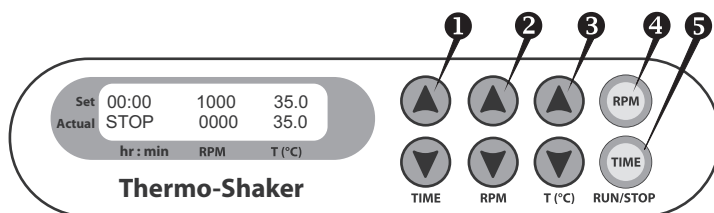

Fig. 1 Control panel
- 4.3 Using the ▲ and ▼ keys (Fig. 1/1) set the required working time interval in hours and minutes (increment - 1 min). Pressing the key for more than 3 s will increase the increment.
- 4.4 Using the ▲ and ▼ keys (Fig. 1/2) set the required speed (increment 10 RPM). Pressing the key for more than 3 s will increase the increment.
- 4.5 Using the ▲ and ▼ keys (Fig. 1/3) set the necessary temperature (increment 0.1°C). Pressing the key for more than 3 s will increase the increment.
4.7 Press the **RPM-RUN/STOP** key (Fig. 1/4). The platform will start rotating and the timer indicator will start counting up the time interval (with 1 min precision).
4.10 The timer can be reset during operation if required. Press the **TIME-RUN/STOP** key once (Fig. 1/5) to stop the timer. Press the **TIME-RUN/STOP** key again to restart the timer.
**Caution!** At the end of the set time period the platform movement is stopped automatically, but the heating can be stopped only by reducing the temperature using the **▼ T(°C)** key (Fig. 1/3 lower key) till the **OFF** sign appears in the upper part of the display.
Following error codes are show in the lower right corner of the display (fig. 1), accompanied by a sound signal every 8 s. Press **RPM RUN/STOP** key to turn off the signal. Please contact our Service Department in the UK or, in other countries, our distributor.